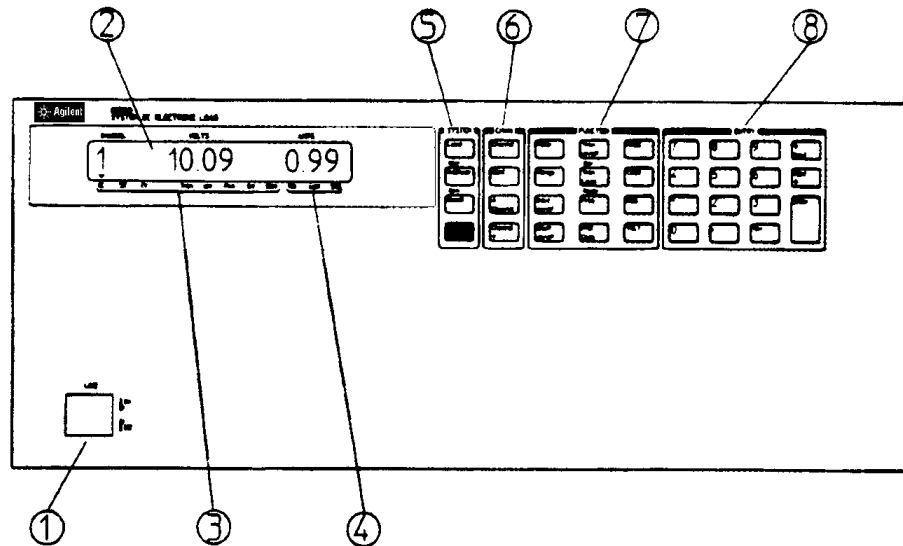

Figure 4.1. Agilent 6050A Front Panel
The Multiple Electronic Load can be programmed locally using the controls and indicators on the front panel. As shown in Figure 4-1, the front panel's controls and indicators include a 12-segment LCD display and a keypad having four groups of keys (SYSTEM, CHAN, FUNCTION, and ENTRY). Table 4-1 gives a brief description of each control and indicator.
2 LCD Display	Normally displays the selected input channel number and the actual voltage and current at that input, for example, "1 10.09 0.99" as shown in Figure 4-1. When programmed from the front panel, the channel number and the function being programmed are displayed. For example, "1 CURR 1.000" indicates that the channel 1 CURR function is set to 1.00 amperes.
3 Electronic Load Status Annunciators	<p>CC-Indicates the selected channel is in the constant current (CC) mode. Note that Figure 4-1 illustrates that channel 1 is in the CC mode (CC annunciator is on).</p> <p>CR-Indicates the selected input channel is in the constant resistance (CR) mode.</p> <p>CV-Indicates the selected input channel is in the constant voltage (CV) mode.</p> <p>Tran-Indicates that transient operation is enabled for the selected input channel.</p> <p>Unr-Indicates that the selected input channel is unregulated (applies only in the CC mode and in the middle and high ranges of the CR mode).</p> <p>Prot-Indicates when channel protection features (CC, OV, OP, OT, etc.) are active on any channel.</p> <p>Err-Indicates that remote programming error(s) have occurred.</p> <p>Shift-Indicates that the shift key, bottom key (blue) in SYSTEM group, was pressed.</p>